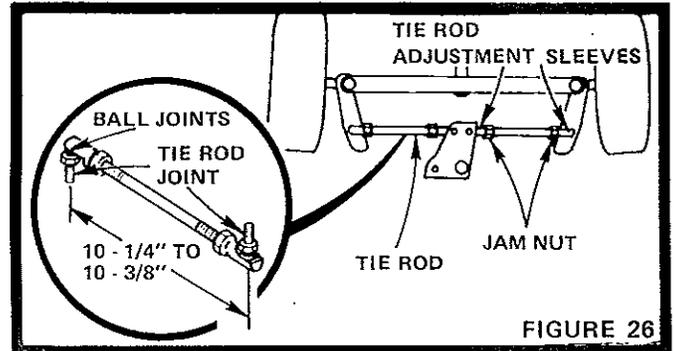

FIGURE 26
- Move Rubber Boots to expose Ball Joints on Tie Rods and Steering Link (Fig. 26).
- a. Loosen Jam Nuts (Fig. 26) at each end of Tie Rod Adjustment Sleeves.